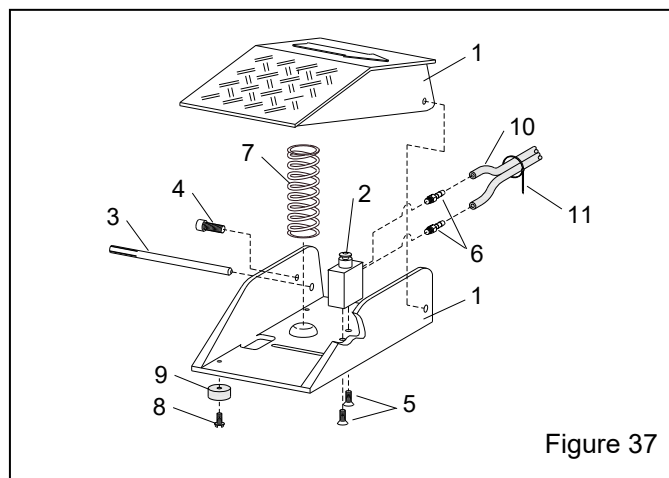

Figure 37
9.5 Foot-Pedal Assembly – Figure 37